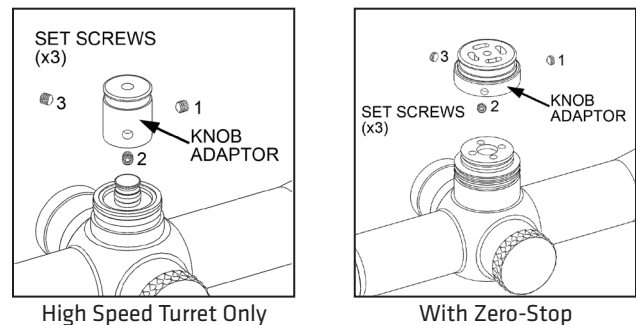

Figure 2.
2. Place the knob adapter over the elevation post. Apply slight downward pressure to ensure that all set screws are seated below the outside diameter of the adapter and tighten evenly to 8-10 in/lbs. It is strongly recommended to use a small drop of the Loctite® 222MS Threadlocker, as packaged in the Tool Kit, on the adapter set screws. Figure 2.